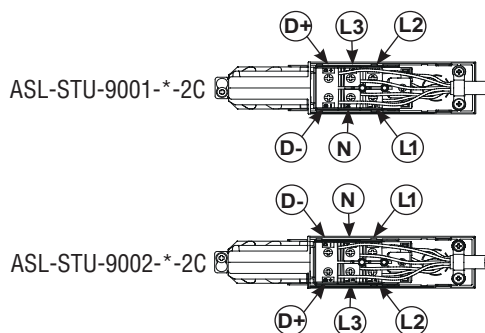

Figure 4
4. Using your Phillips Screwdriver, attach the wires to there correct location. **Figure 4**